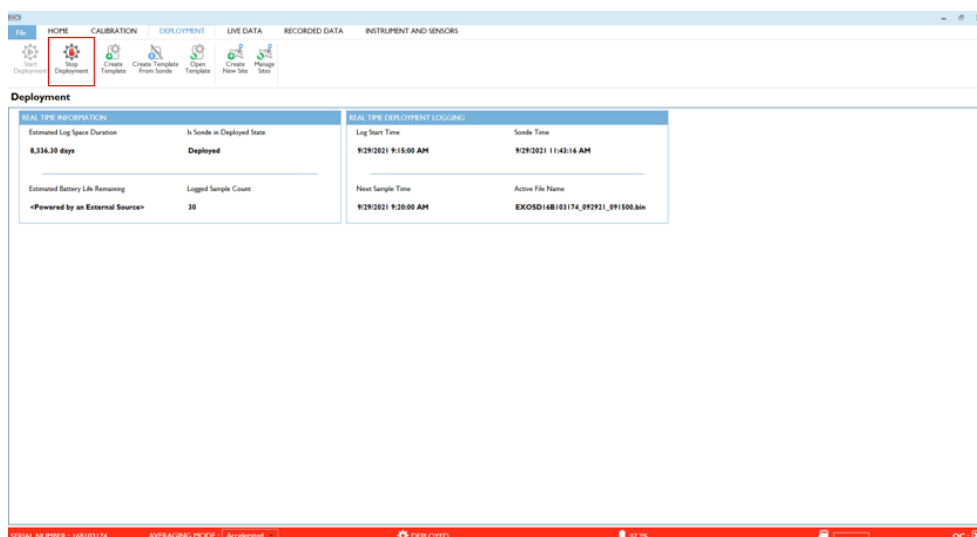

Figure 5. Stop Deployment
1. Open the Kor software and navigate to **Deployment tab**, select **Stop Deployment (Figure 5)**.